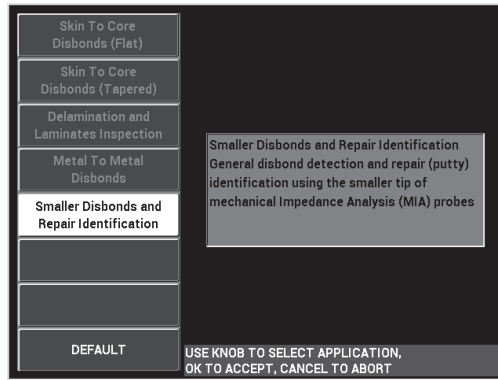

Figure 6-62 The Smaller Disbonds and Repair Identification application
3. Select the **Smaller Disbonds and Repair Identification** application, and then press ✓ to accept (see Figure 6-62 on page 176).